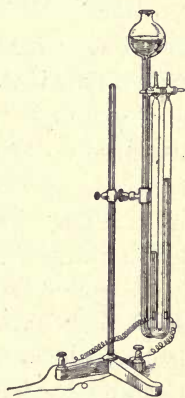
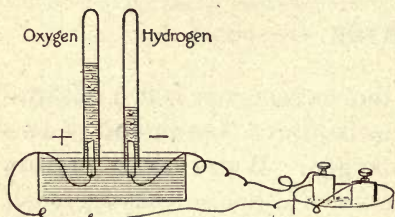

FIG. 90.—Hoffmann Apparatus.
FIG. 91.—An Easily Constructed Apparatus for Showing Electrolysis.
**Electrolysis of Water.** — The commercial piece of apparatus sold for this experiment is called a Hoffmann apparatus (Figure 90). However, if such an apparatus is not available, the experiment may be performed very well by such an apparatus as shown in Figure 91. The water used should be slightly acidulated with sulphuric acid, and the wires leading from the battery should terminate in platinum foil. The ends of the wires are called **poles** or **electrodes**. The test tubes are filled with water and suspended over the electrodes so that the mouths of the test tubes shall be below the level of the water in the pan. The amount of electricity needed